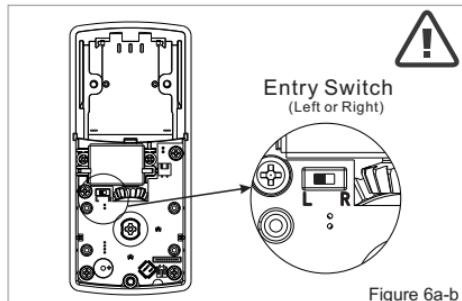

Figure 6a-b
- a. Gently move the switch to "L" for Left Handed Door (Figure 6a).